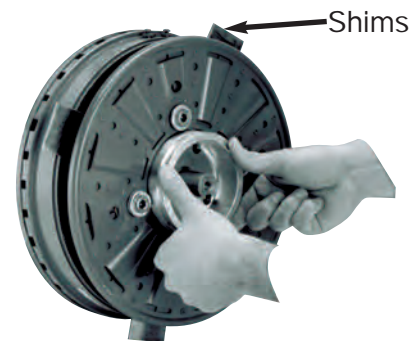

Figure 20 - Armature installation with shims in place.
Step 9: **Make sure no power is applied to the brake.** Place three steel shims 120 degrees apart on the magnet as shown in Figure 20.